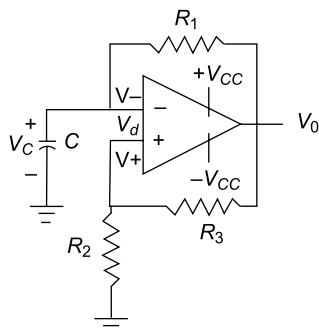

Fig. 9.62
4. Verify that Fig. 9.62 behaves as an astable multivibrator